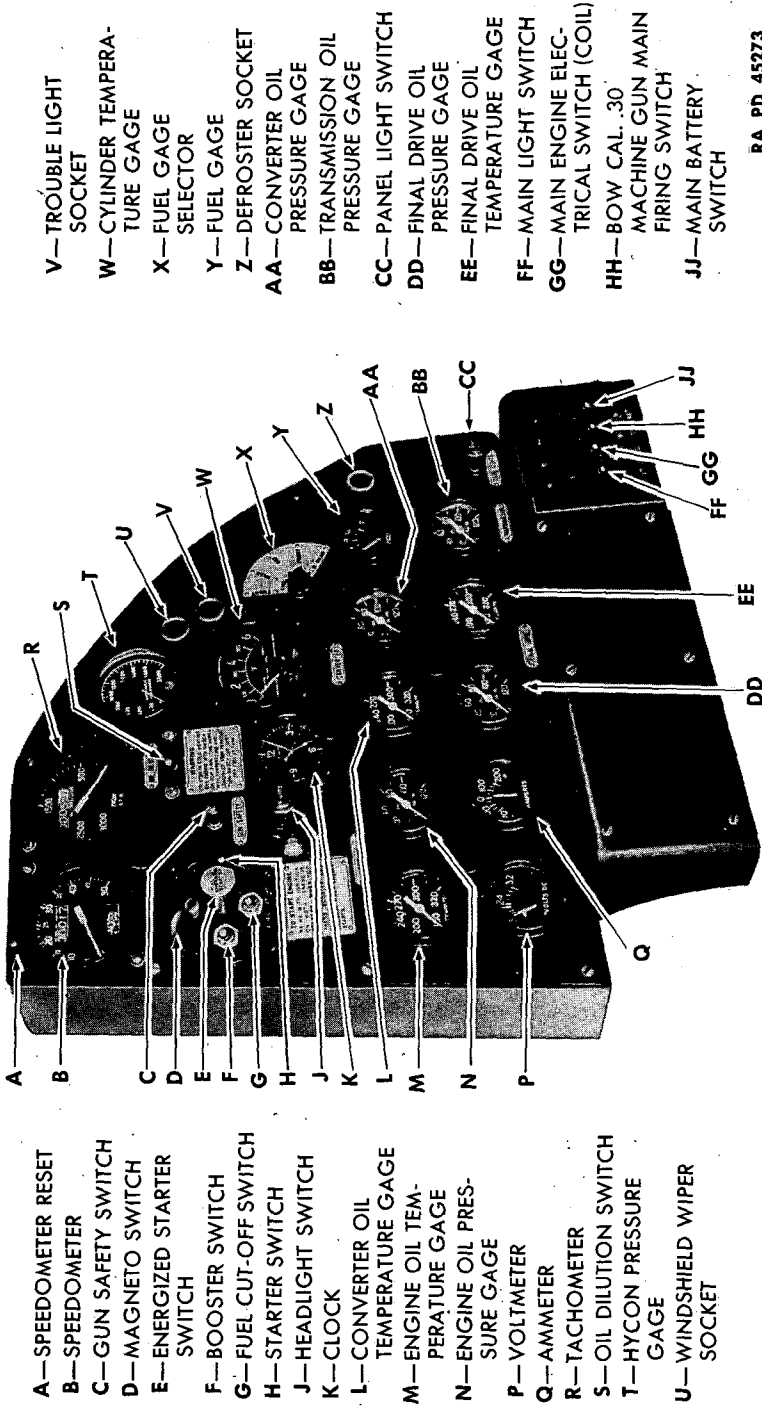

Figure 7—Instrument Panel
(b) The button in the top of each of the 2 Hycon controls fires the cal. 30 machine gun in the bow of the vehicle. The gun safety switches on the instrument panel must be switched on (fig. 7) and the buttons in the 2 controls must be pressed simultaneously in order to fire the gun.
j. **Instrument Panel** (fig. 7). The instrument panel is located at eye level to the left of the driver on the sponson wall. It carries the speedometer, tachometer, Hycon pressure gage, ignition and starter switches, gun safety switch, oil dilution switch, light switches, cylinder temperature gage, gas gage selector, engine oil temperature and oil pressure gages, torque converter oil temperature and oil pressure gages, voltmeter, ammeter, final drive oil temperature and oil pressure gages, clock, and sockets for the windshield wiper, defrosters and trouble light.
(1) Mounted on the bracket which also holds the compass to the front of the hull is an oil pressure warning light. The light flashes red
j. Check Instrument Panel (fig. 7).
(1) Inspect the voltmeter (switch open) to see that the needle is against the stop.
(2) Close battery switch and check voltmeter for 24-volt reading, and check ammeter for zero reading.
(3) Check fuel gage, switching the selector to all four tanks, for adequate fuel supply.
(4) Check headlight and siren operation, watching ammeter for indication of discharge.
(5) Check operation of solenoid fuel cut-off switch.
(3) Switch on the main battery switch, engine electrical switch and light switch (fig. 7).
(4) Turn on the booster switch and listen for the buzzing sound which indicates operation (fig. 7).
(7) Open the hand throttle slightly.
(8) Pull out the energized starter switch, and wind the starting motor for 3 or 4 seconds (fig. 7).
(9) Close the starter and booster switches (fig. 7). (If necessary, continue to prime the engine while starting.) **CAUTION:** Never hold the starter switch closed for more than 30 seconds at a time. Then allow starting motor to cool off before attempting to turn the engine over again.
(10) Wait 2 seconds, then turn the magneto switch to the "BOTH" position (fig. 7). If the engine fails to start, repeat the process. After engine starts, press lightly on accelerator pedal (fig. 6). *Do not pump throttle.* Too much gas when the engine first starts will cause it to stall. **NOTE:** If the engine has been overprimed, and is flooded, turn it over with the starting motor, holding the accelerator wide open, with the ignition switch on.
(11) Continue to prime until the engine is firing smoothly and the fuel pressure builds up to its running limit of 15 to 18 pounds per square inch. If the engine is warm, priming may not be necessary.
(12) As soon as the engine starts, *watch the engine and converter oil pressure gages* (fig. 7). If oil does not start building up pressure on the gages within 10 seconds, at 800 revolutions per minute, shut off the engine and report the condition to the proper authorities.
(13) Warm the engine at *800 revolutions per minute for 5 minutes*. The engine oil pressure should be between 55 and 75 pounds, which is normal for this engine speed. Converter oil pressure gage should read between 35 and 45 pounds.
(14) After a 5 minute period, and if engine and converter oil temperatures have reached 100 F, increase engine speed to 1,000 revolutions per minute. If oil pressure drops off, go back to 800 revolutions per minute for more complete warm-up.
(15) Check operation of instruments while warming up, and note results on commander's report. The ammeter reading immediately after starting may be as high as 55 amperes, depending upon the condition of the batteries, and will gradually drop as the batteries become charged. The voltmeter, after starting, may be as high as 28½ volts (fig. 7).
(16) Increase engine speed to 1,800 revolutions per minute and check fuel pressure and engine operation with magneto switch in "L" and "R" positions (fig. 7). A 200 revolution-per-minute drop in engine speed is permissible at this speed, when operating on only 1 magneto and using